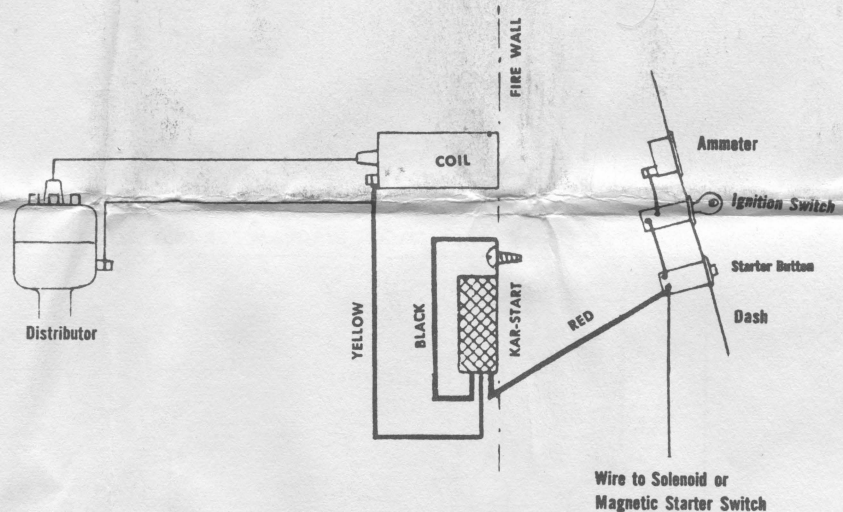

FIG. 2—PERMANENT CONNECTION
FOR PERMANENT CONNECTION. (See Figure 2)
2. Figure 2 shows connections for operation of Kar-Start on cars with dash push button starter.
3. For starters on accelerator: Connect black and yellow leads as shown in Figure 2. Connect red lead to terminal of vacuum switch on which wire from cut out relay or solenoid switch is connected.